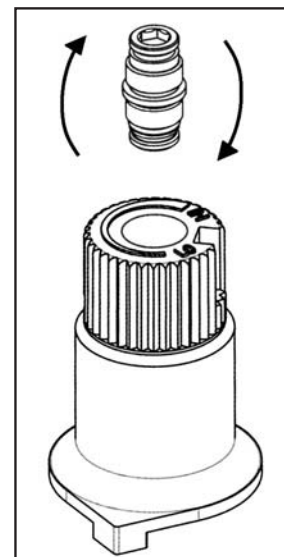

Figure 12: Flip valve screw.
- d) Flip the screw (refer to Figure 12).